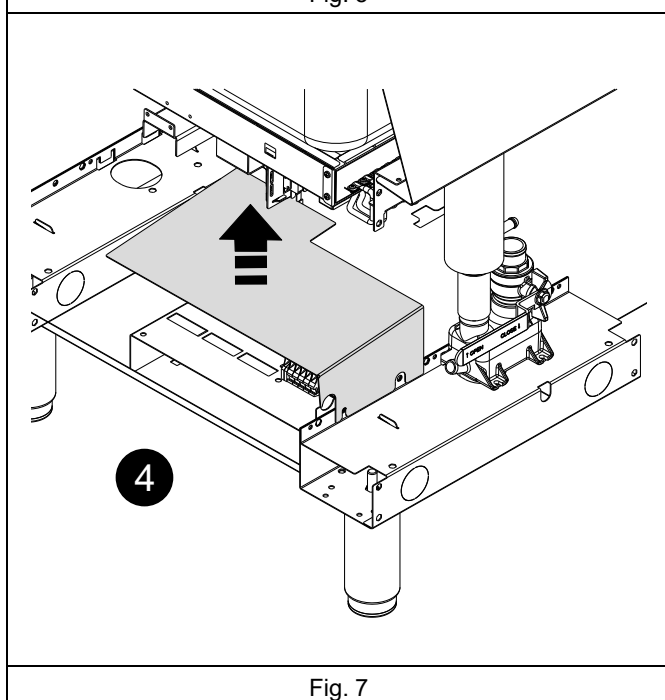

Fig. 7
4. Loose the screws of the terminal block protection panel to shift it upwards (see detail 4 — Fig. 7).